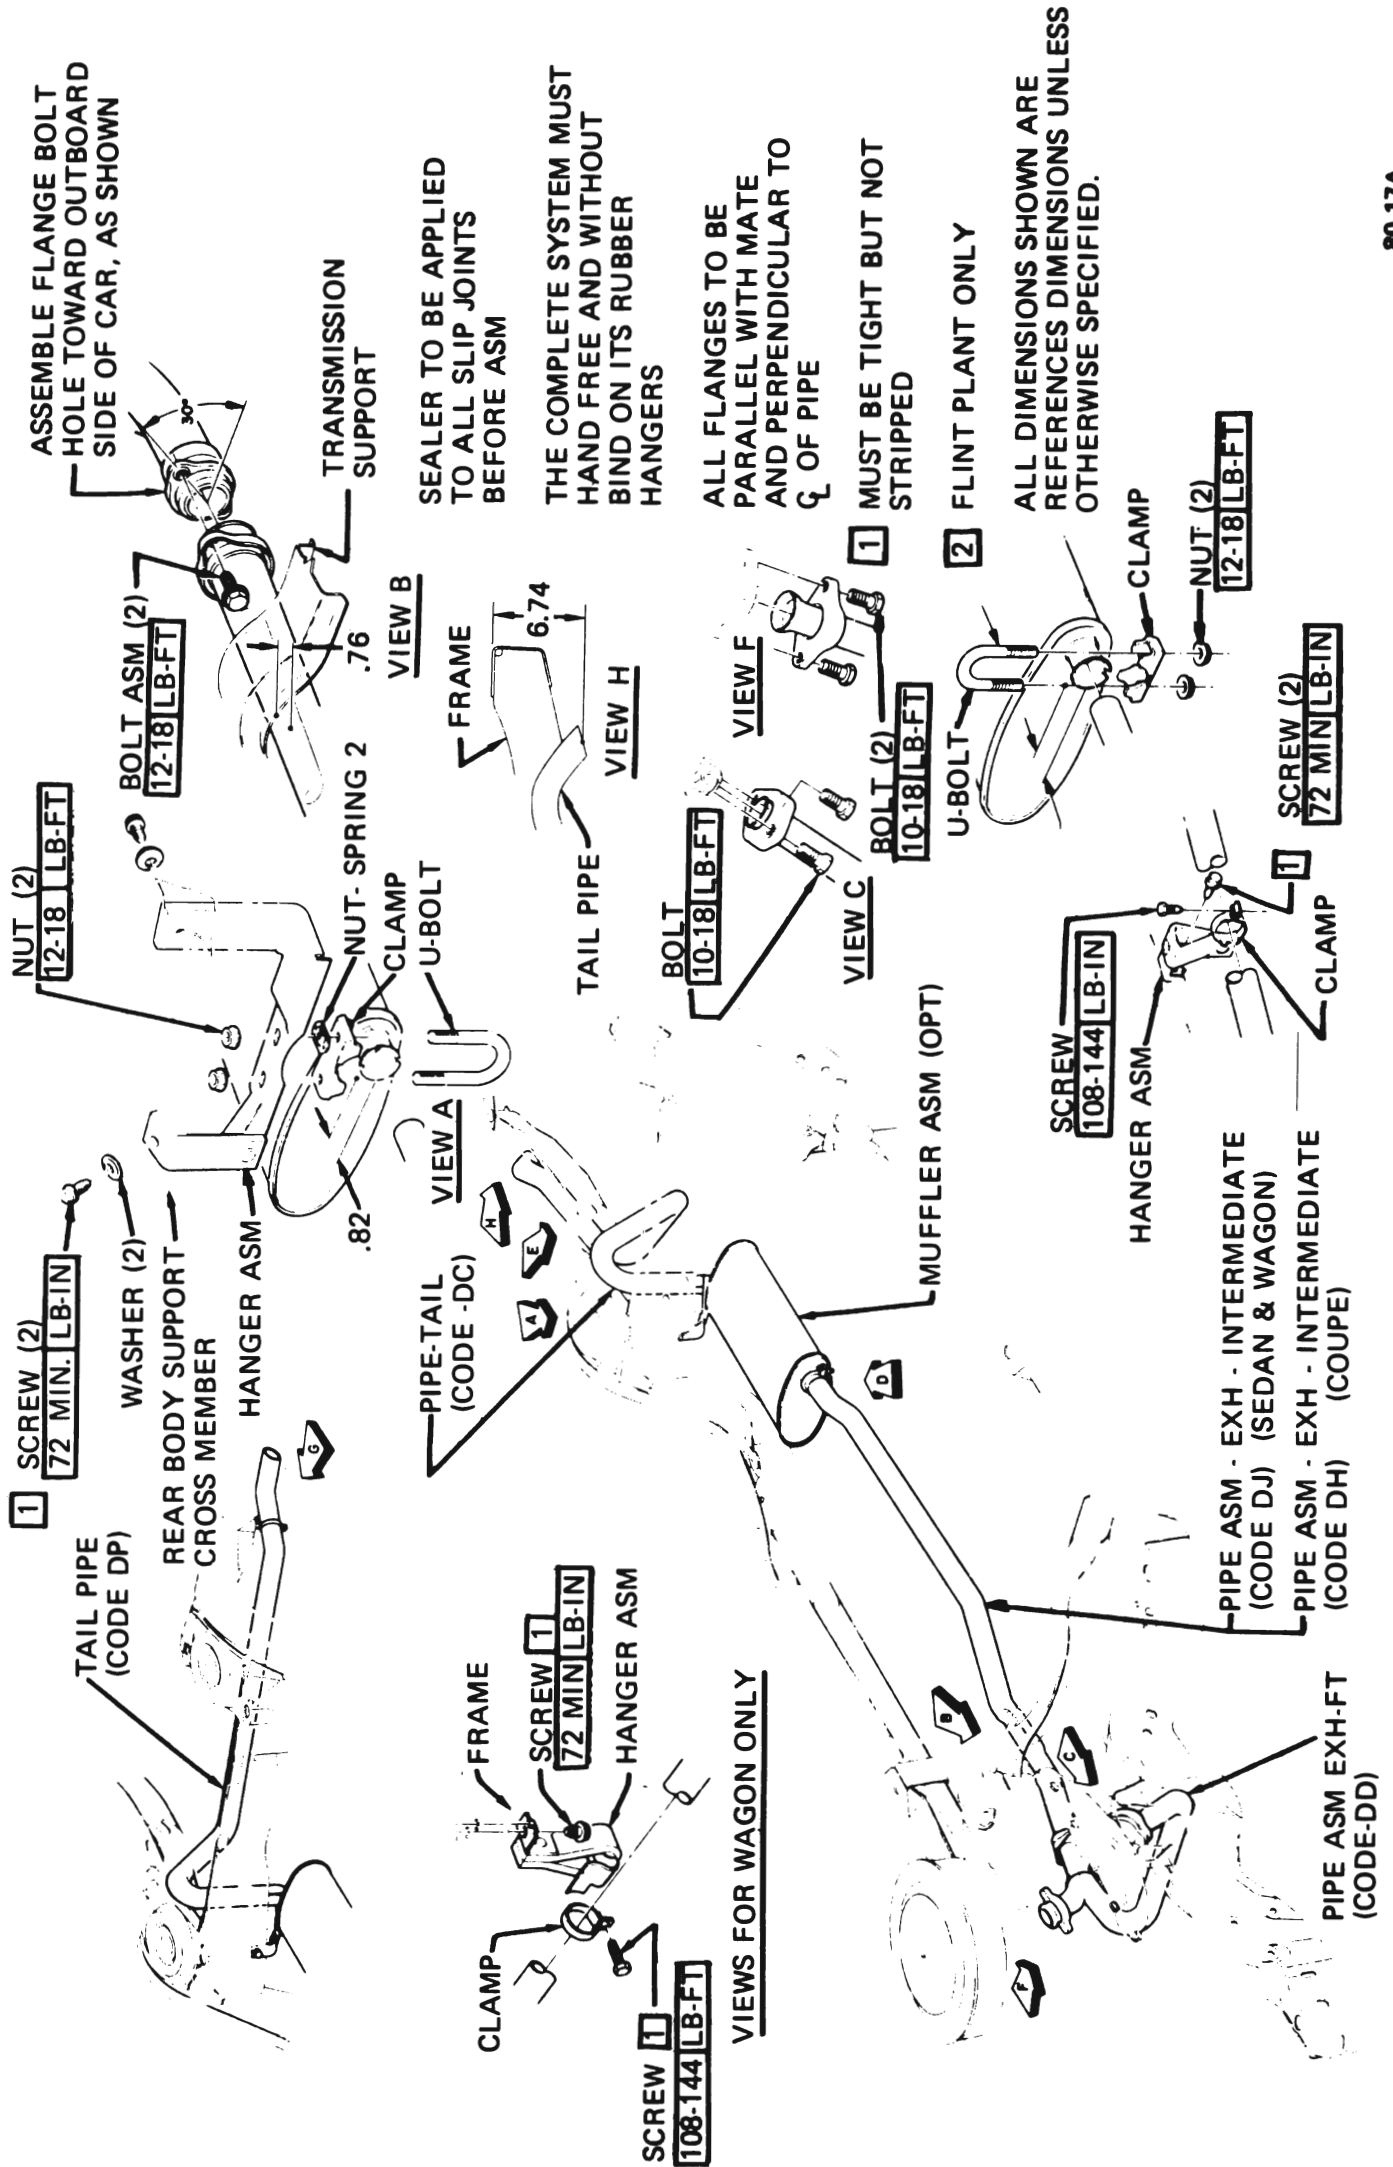

Figure 80-17 Exhaust System V-8 Skylark, Skylark Custom, and Sport Wagon Except G. S.
9. Align muffler and exhaust pipe. See illustration that applies--Figures 80-17 through 80-23.
7. Align resonator assembly. See illustration that applies--Figures 80-17 through 80-23.
6. Align exhaust pipe. See illustration that applies - Figures 80-17 through 80-23.
7. Align tail pipe. See Figures 80-17 through 80-23.